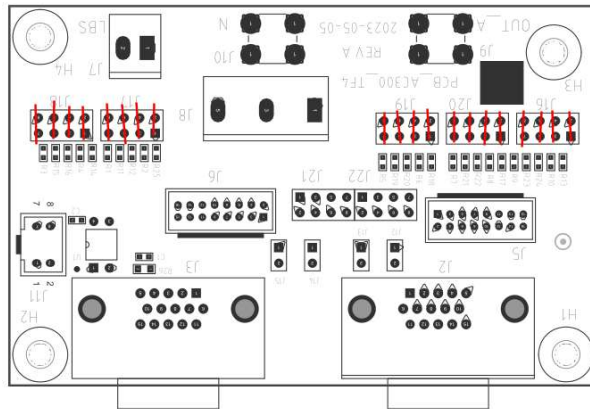

Figure 5-7 Single UPS
(2) Depending on the number of parallel machines, and the corresponding short pin status on the board is different:
- Single UPS: J16-J20 needs to be short through short circuit blocks, as show in Figure 5-7.